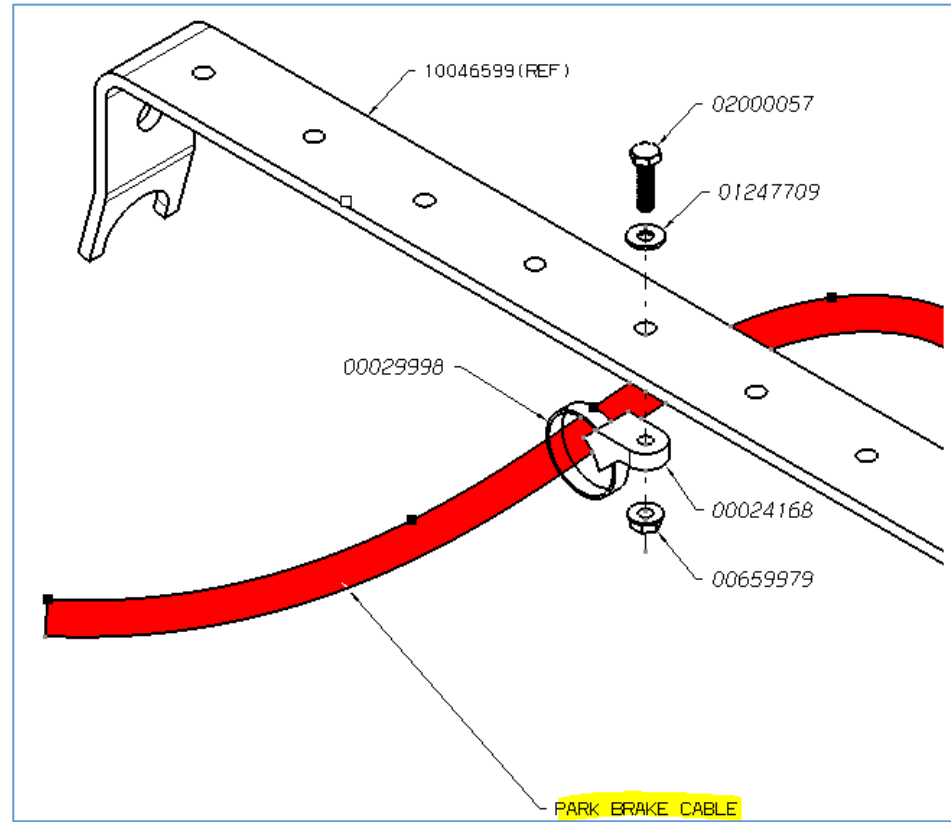

Figure 1
See Figure 1
*NOTE- The saddle must be positioned on the underside of the brace. Reference Figures 1 & 2.
- Once the mount is installed, use tie cable item 5-p/n 00029998 to secure the park brake cable.